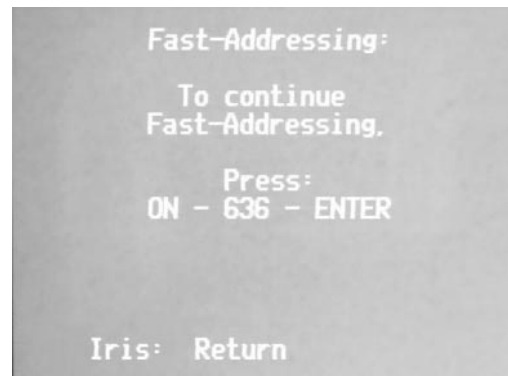

Figure FA2
3. Press ON-26-ENTER. The screen shown in FIGURE FA2 will be displayed. At this point, any camera whose ID does not begin with 26 will exit the *FastAddressing* mode.